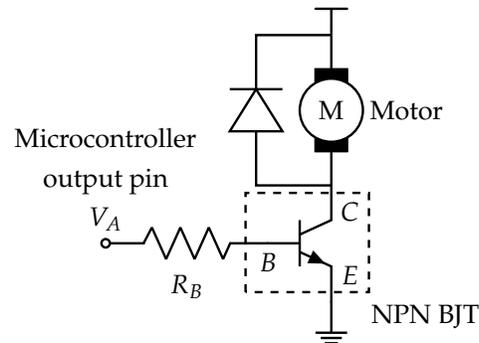

Figure 1: Motor Controller Circuit
In the lab project, you will be designing SIXT33N, a mischievous little robot who *might* just do what you want — if you design it correctly. In phases 1 and 2, you will build the **legs** of SIXT33N: you will be designing SIXT33N's wheels and developing a linear model for the car system. The wheels will be driven by two 9-Volt DC motors whose driver control circuit is shown in Figure 1 .
The BJT in Figure 1 is switching between **ON** and **OFF** modes when V_A is HIGH and LOW respectively. The model for both ON and OFF states are shown in Figure 3. When the BJT turns on, V_{BE} can be modeled as a fixed voltage source with voltage value V_{BE0} . In ON mode, there is a **Current Controlled Current Source** modeled between "Collector (C)" and "Emitter (E)", i.e., current at the "Collector (C)" is an amplified version of current at the "Base (B)" (notice that positive I_B has to flow into the "Base (B)" for the relation $I_C = \beta_F I_B$ to hold). β_F is called the **Common-Emitter Current Gain**.
- Draw the equivalent motor controller circuit when the BJT is ON by substituting in the BJT model from Fig. 3a into Fig. 1. Express I_B and I_C for $V_A = V_{A,HIGH}$ as a function of R_B .
- Draw the equivalent motor controller circuit when the BJT is OFF by substituting in the BJT model from Fig. 3b into Fig. 1. Express I_B and I_C for $V_A = V_{A,LOW}$ as a function of R_B .